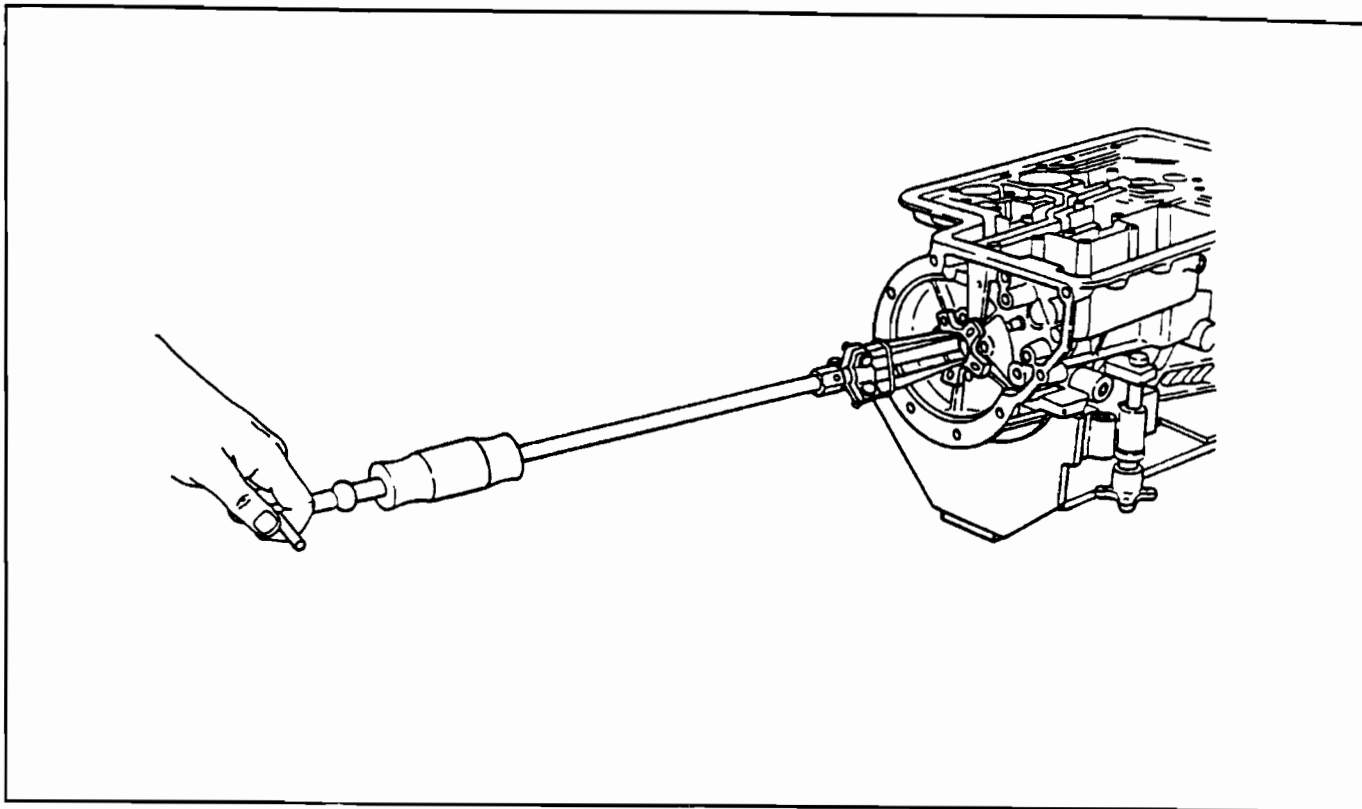

Figure 10
1. Remove the rear case bushing only using Seal Remover and impact Slide Hammer as shown in Figure 10.